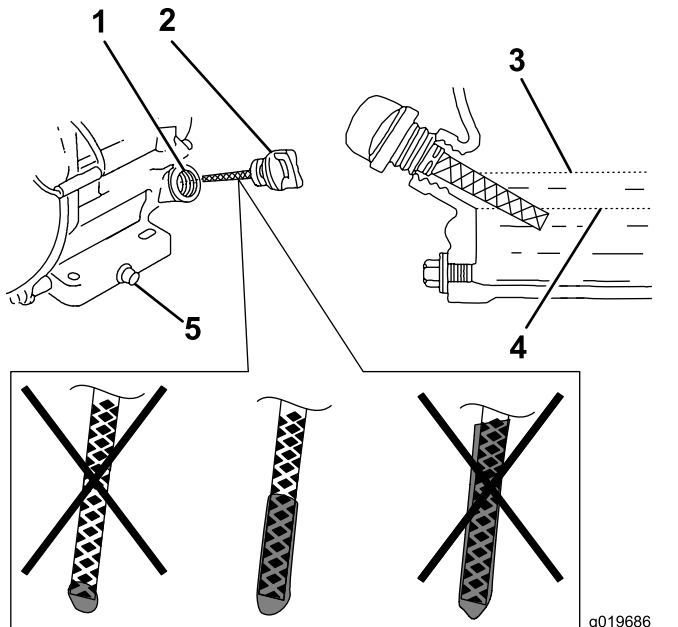

Figure 16
6. Remove the dipstick and check the engine-oil level (Figure 16).